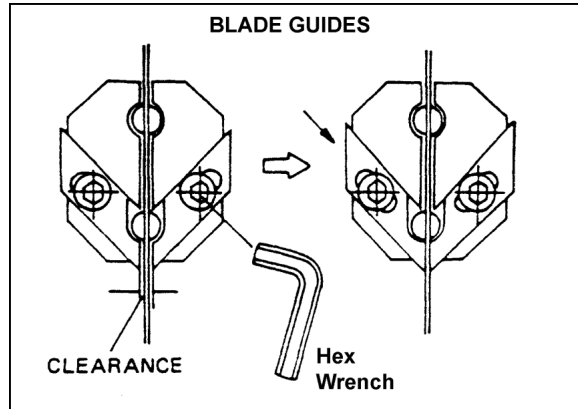

Figure 9
5. Loosen the socket head cap screws (Figure 9) on the blade guides.
7. Tighten the socket head cap screws (Figure 9).